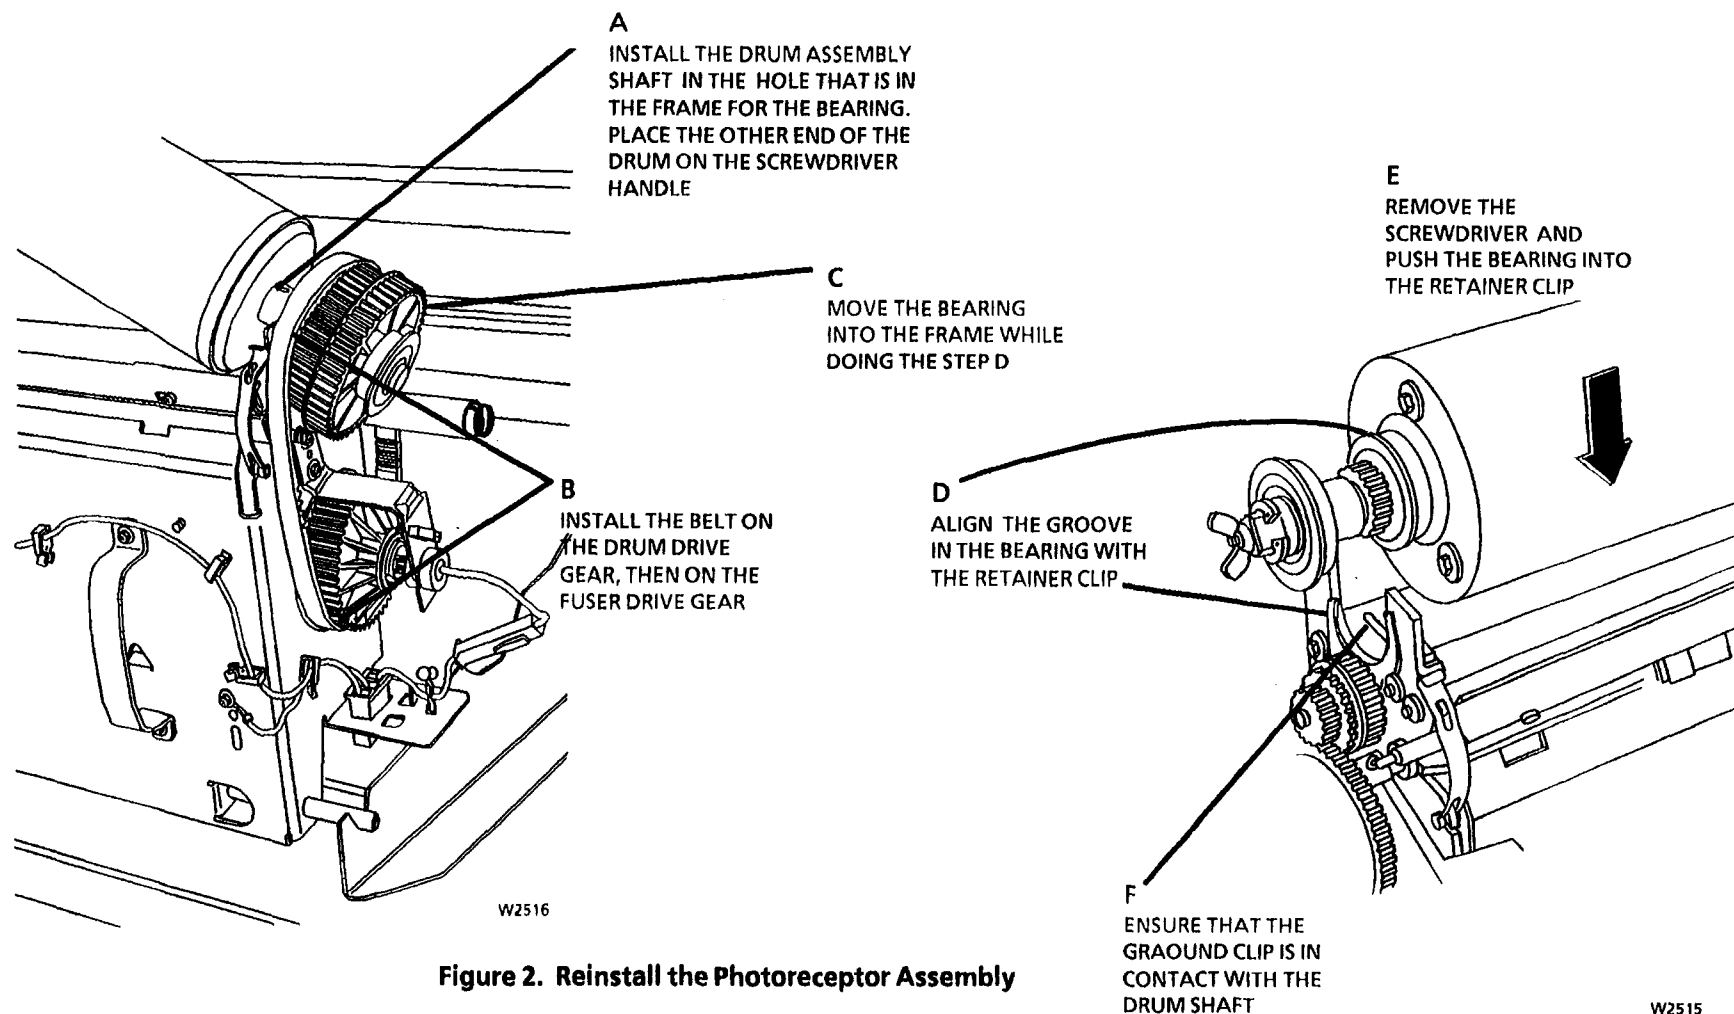

Figure 2. Reinstall the Photoreceptor Assembly
1. (Figure 2): Reinstall the Photoreceptor Assembly.